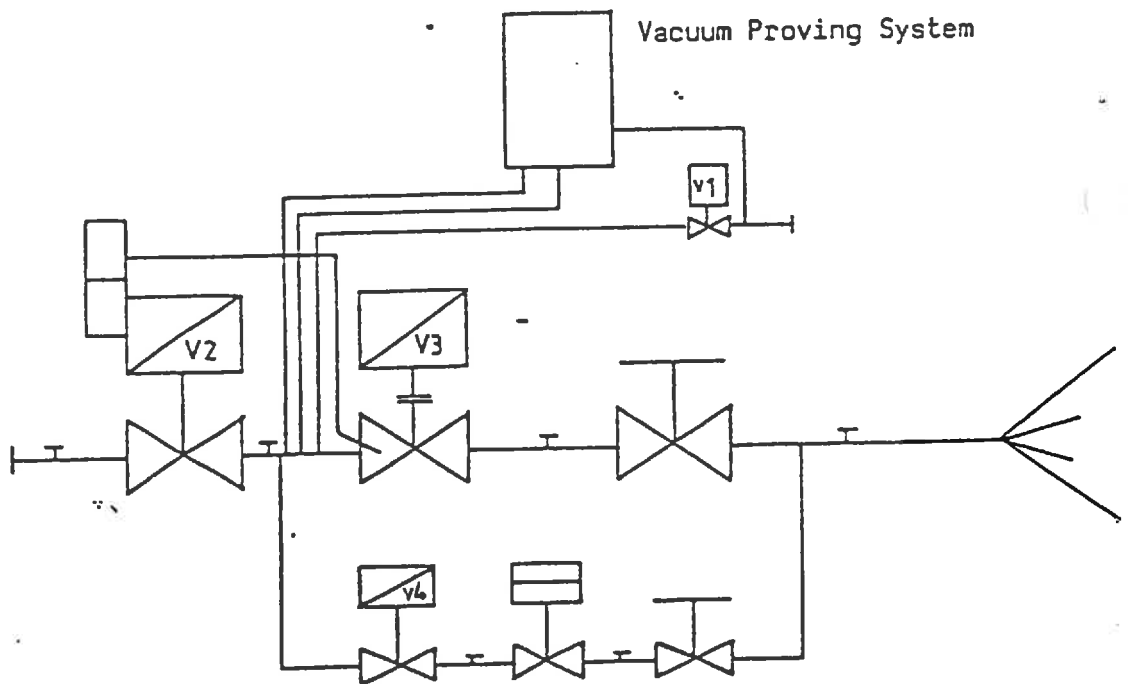

Fig. 6.
5.2.2 VACUUM PROVING SYSTEM FIG. 6.